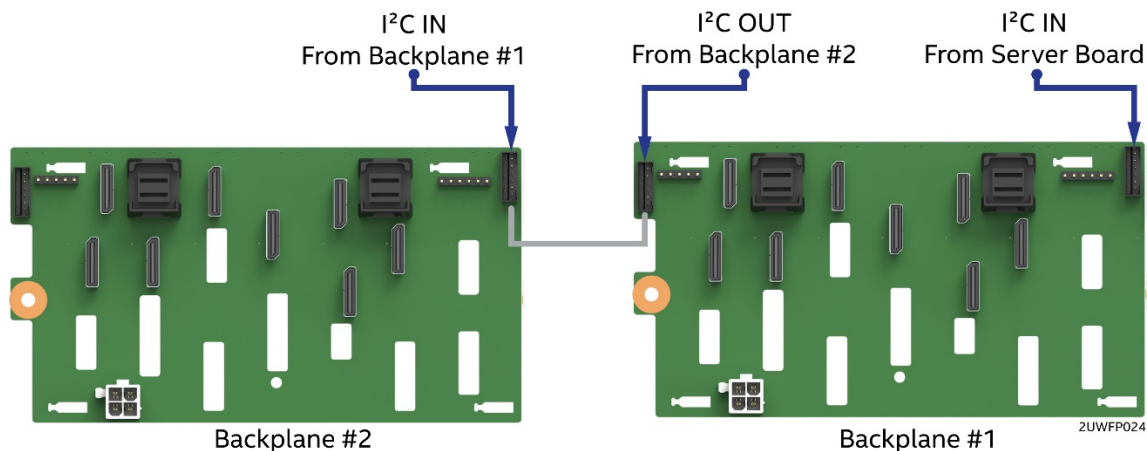

**Figure 51. 8 x 2.5" dual port SAS backplane, back side**
**Note:** Letters in parenthesis denote references to connectors on the back side of the backplane as illustrated in Figure 51.